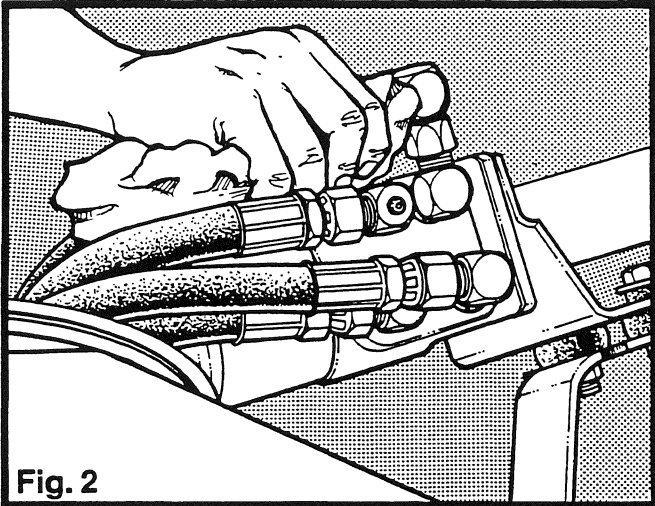

Fig. 2
1. Be sure to clean all dirt and flaking paint from the outside of the steering unit before disconnecting the hoses. (Fig. 2)